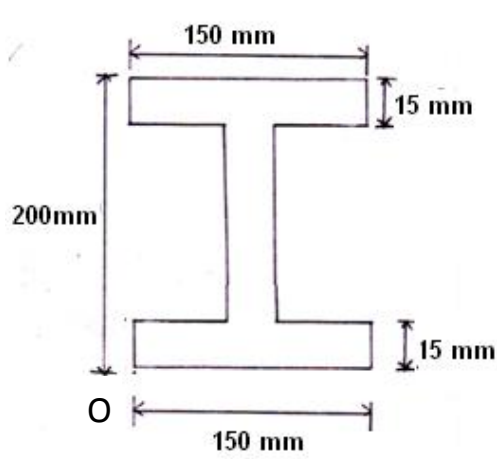

Fig. 11
Q.12	(a) State : 1) Parallel axes theorem 2) Perpendicular axes theorem (b) Find the centroid of the I- section shown in fig. 11 about point 'O'.
Q.13	(a) Define: Moment of inertia of lamina (b) Find moment of inertia of I- section shown in fig. 11 about both centroidal axis.